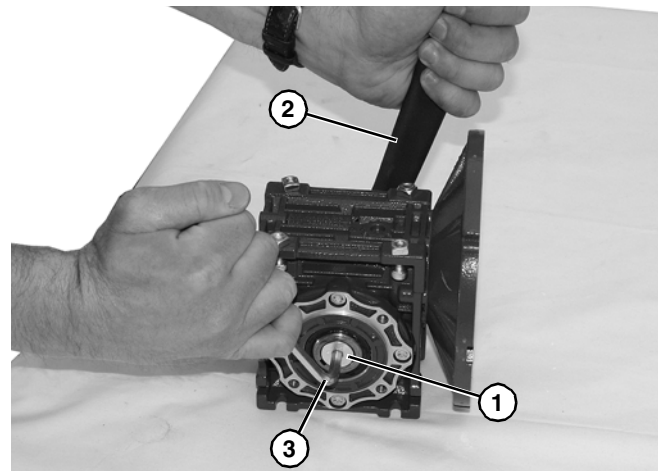

Figure 22
2. Loosen driveshaft bolt (**Figure 22, item 1**).
3. Hold the driveshaft with a wrench (**Figure 22, item 2**) as shown to keep shaft from turning, while removing screw with hex wrench (**Figure 22, item 3**).
8. Hold the driveshaft with a wrench (Figure 22, item 2) as shown to keep shaft from turning, while installing screw with hex wrench (Figure 22, item 3). Tighten screw to 100 in-lb (11.5 Nm) for 42CZ or 350 in-lb (39.5 Nm) for 52C, 63B5 and 71B5.